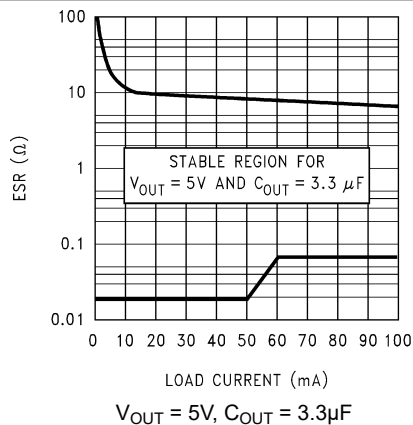
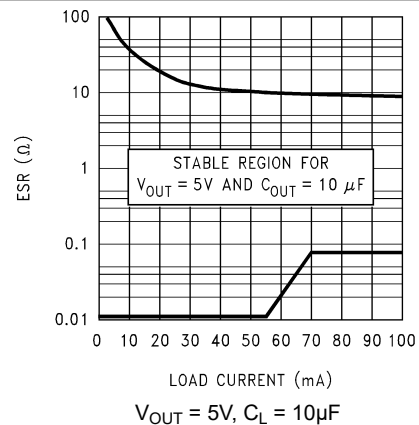
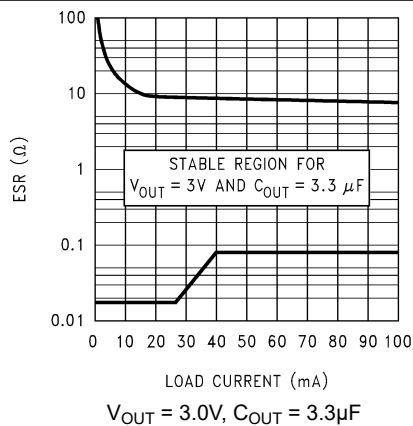
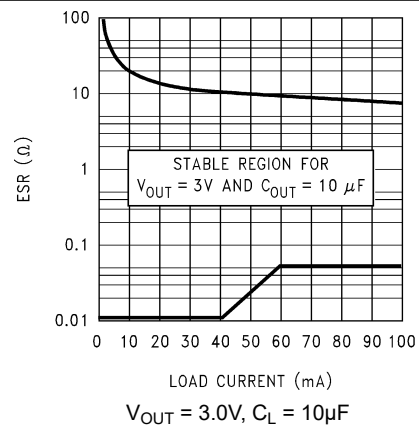

図 7-3. 5V, 3.3 μF ESR Curves (Legacy Chip)
図 7-4. 5V, 10 μF ESR Curves (Legacy Chip)
図 7-5. 3.0V, 3.3 μF ESR Curves (Legacy Chip)
図 7-6. 3.0V, 10 μF ESR Curves (Legacy Chip)
The output capacitor must meet both the requirement for minimum amount of capacitance and equivalent series resistance (ESR) value. Curves are provided that show the allowable ESR range as a function of load current for various output voltages and capacitor values (see Figure 7-3, Figure 7-4, Figure 7-5, and Figure 7-6).
- ESR range: See Figure 7-3, Figure 7-4, Figure 7-5, and Figure 7-6.